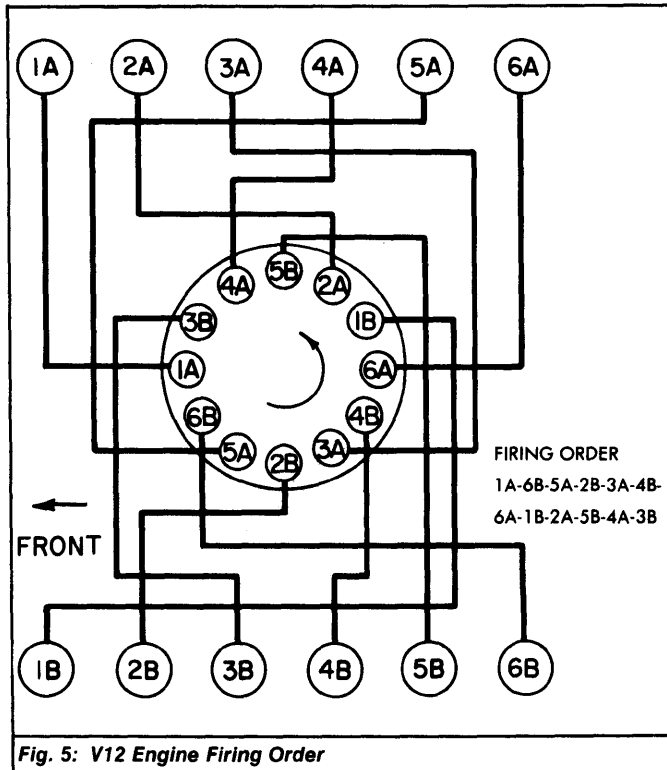

Fig. 5: V12 Engine Firing Order
**Electrical Pulses & Cable** - 1) Injectors are connected in groups to power amplifier and each group is divided into parallel sets of 3. See Fig. 5.